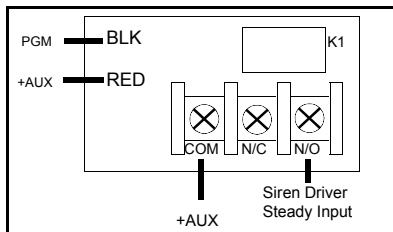

FIGURE 7 KEYFOB/KEYSWITCH CHIRP
(2) Access Output - Activates the PGM output for 5 seconds using the  command.
(3) Follow Keypad Sounder - The following keypad sounds will activate the PGM output: Entry Sounder, Keypad Pulsing Sounder, Keypad Output on Alarm, Chime, Fault Find.
(4) Keyfob/Keyswitch Chirp - Program to chirp the PGM Output (1) one time when the panel is armed or (2) two times when the panel is disarmed. Wire as shown in Figure 7.